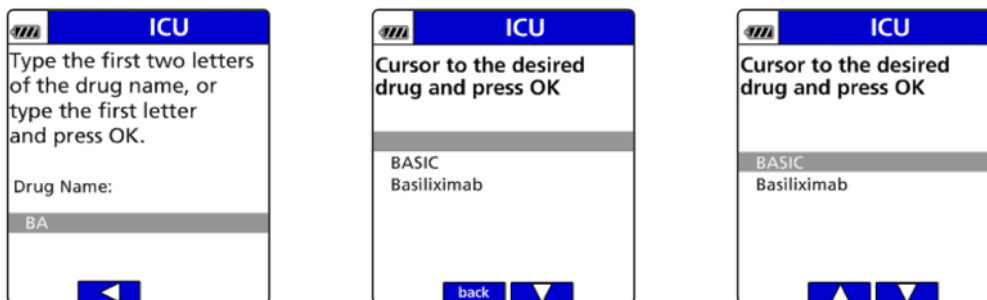

Figure 122. Selecting BASIC at Drug Identification Screen.
4. Using the keypad, enter the letters **BA**, select BASIC and press **OK**. See Figure 122.